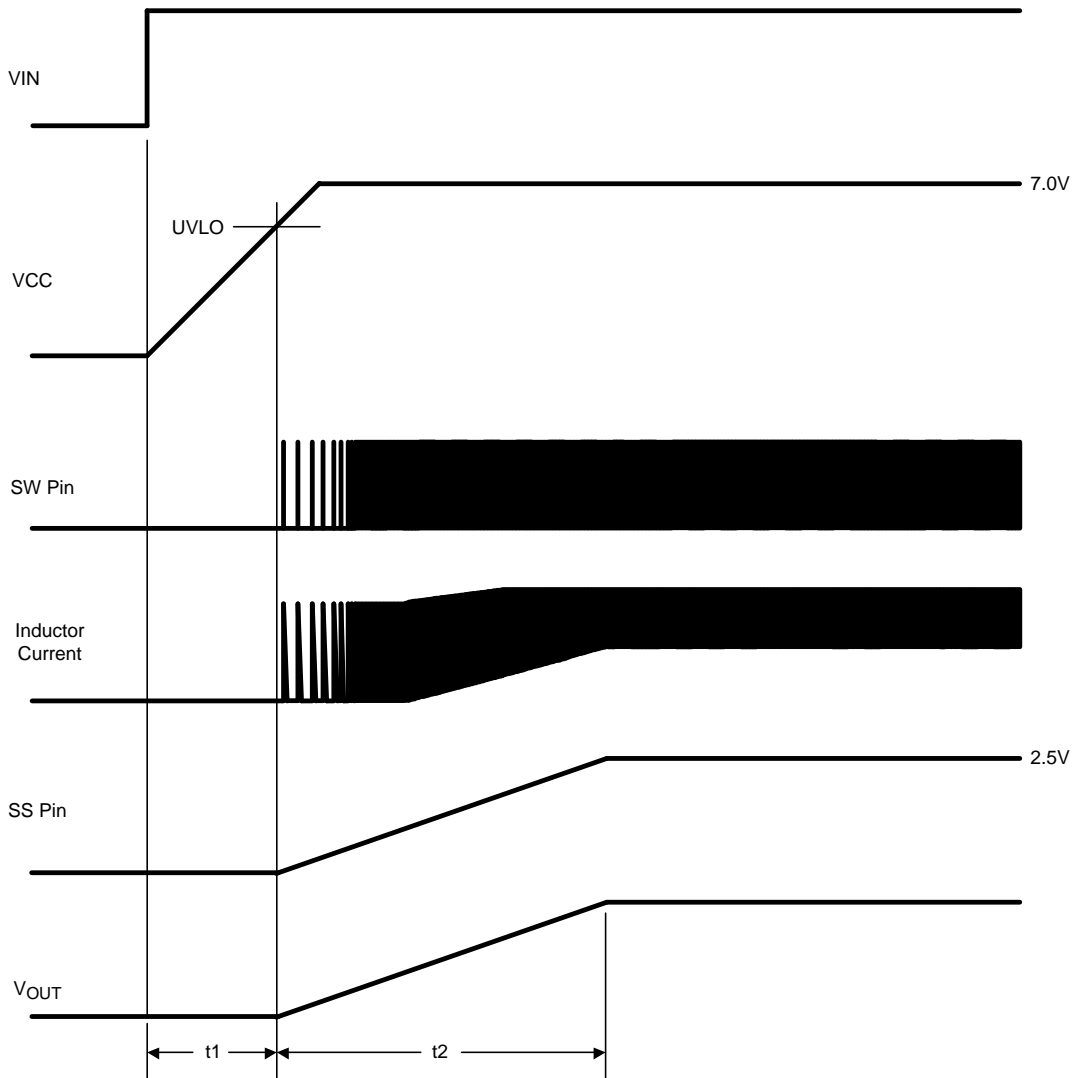

Figure 11. Start Up Sequence
**C3:** The capacitor at the VCC pin provides noise filtering and stability for the VCC regulator. C3 should be no smaller than 0.1  $\mu\text{F}$ , and should be a good quality, low ESR, ceramic capacitor. C3's value, and the  $V_{CC}$  current limit, determine a portion of the turn-on-time ( $t_1$  in Figure 11).
**C6:** The capacitor at the SS pin determines the softstart time, i.e. the time for the output voltage, to reach its final value ( $t_2$  in Figure 11). The capacitor value is determined from the following: